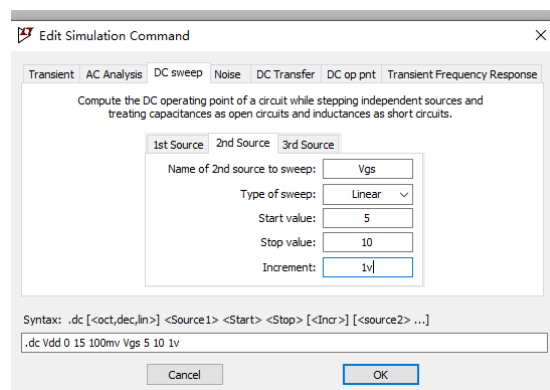

Figure 15: Configuration for V_{GS}
7. We add a DC sweep to V_{GS} at the same time, to see the relationship between V_{DS} and I_D . Still in the DC sweep configuration, select 2nd source, configure it as show in Figure 15.